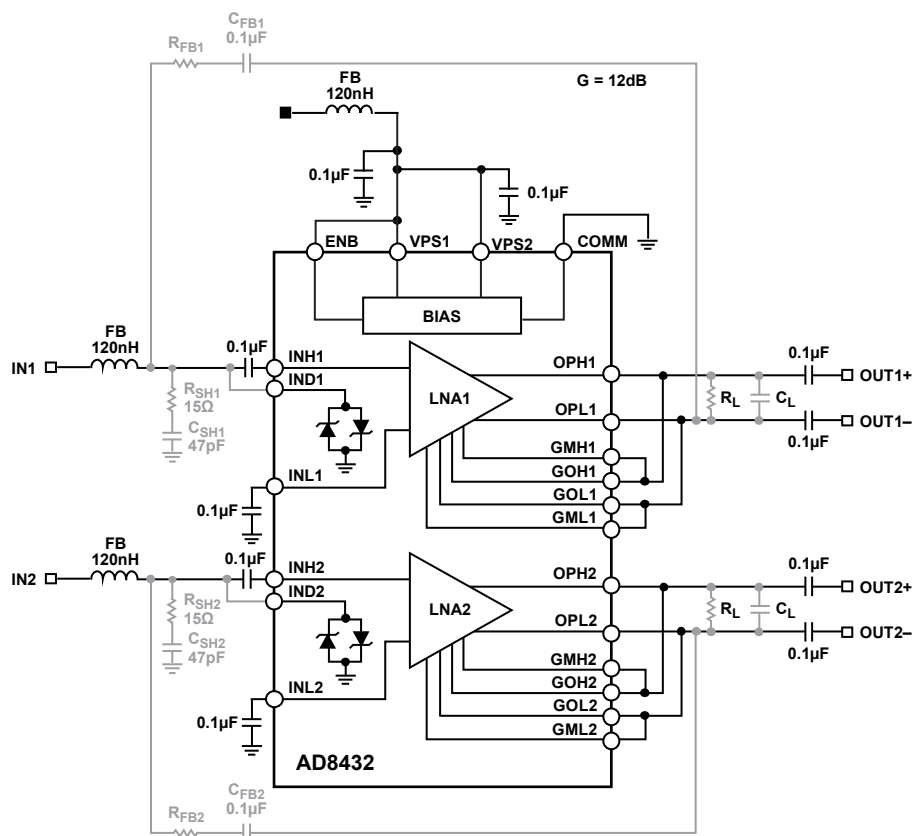

Figure 69. Typical AD8432 Setup, $G = 12.04 \text{ dB}$
At the lowest gain (12.04 dB), the gain response exhibits some peaking at higher frequencies. A resistor-capacitor shunt network (RC) at the input (see R_{SHx} and C_{SHx} in Figure 69) is recommended to reduce gain peaking and enhance stability at higher frequencies.